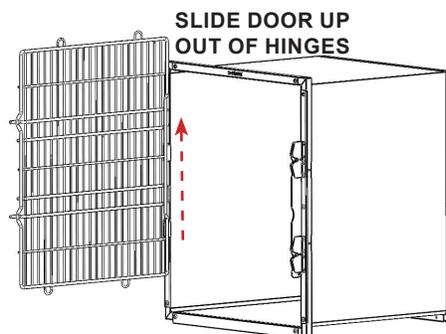

FIGURE 2.2 - Door Removal
STEP 2: Lift the door upward, sliding the bushings out of the hinge assemblies. Set away from the assembly area. See FIGURE 2.2